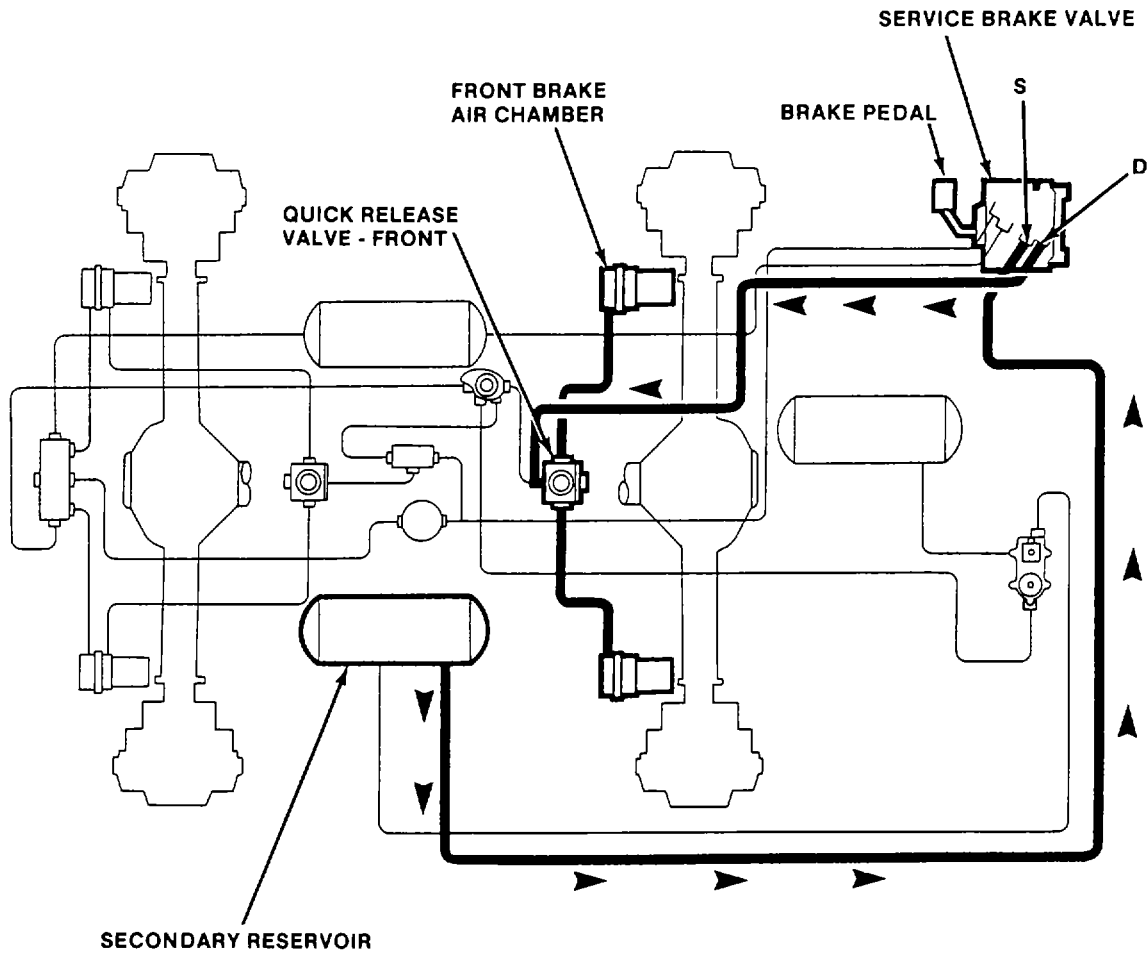

Figure 1-33. Front Brake System
(1) To engage the front brakes, air pressure is supplied from the secondary reservoir via the service brake valve (front) to the front wheel brake air chambers, (see fig. 1-33). When the brake pedal is released, the air pressure exhausts. Without pressure, the quick release valve opens and vents the air chambers to atmosphere, thereby, releasing the brakes.
(2) The front brake system is operational only when the secondary reservoir is pressurized.